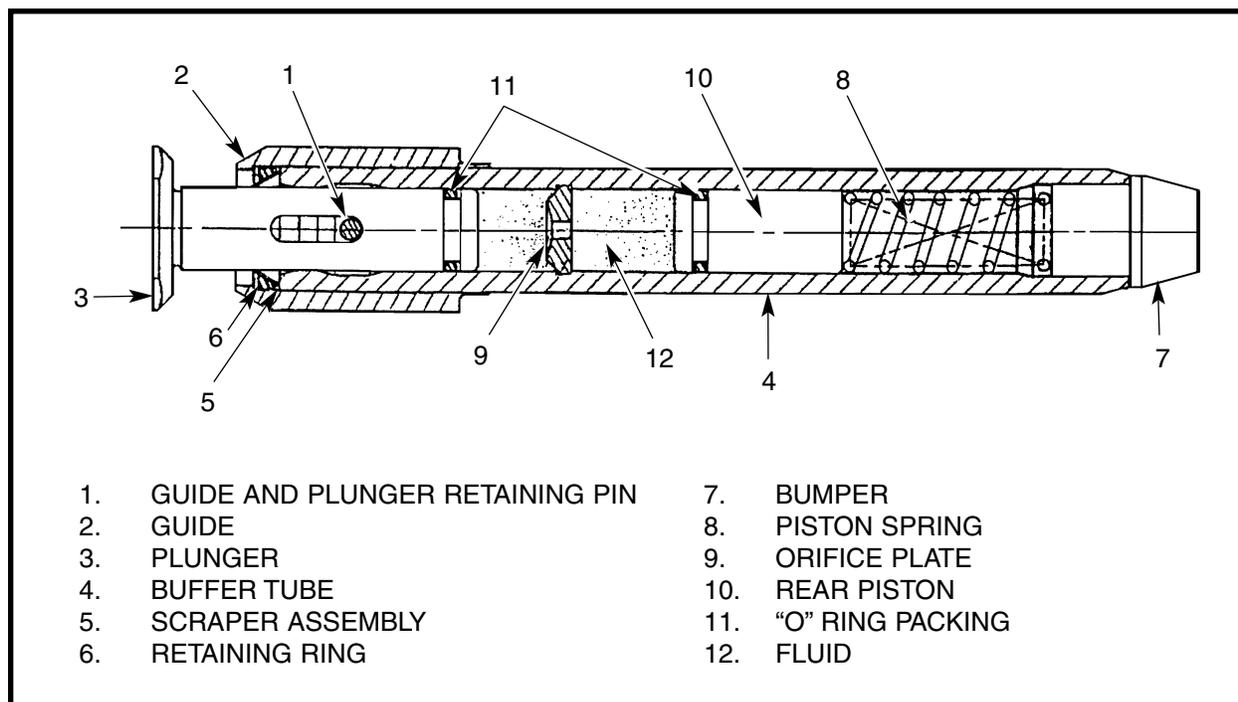

Figure 3-2-61 Hydraulic Buffer Assembly
75. Disassemble the buffer assembly as follows, see figure 3-2-61:
- a. Remove the riveted end of the guide and plunger retaining pin (1), and remove the pin using a suitable pin punch;
- b. Slide the assembled guide (2), and plunger (3) off of the buffer tube (4);
- c. To further disassemble the guide and plunger assembly, remove the "O" ring (11) from the plunger and slide the plunger forward out of the guide. The three piece scraper assembly (5) and the steel retaining ring (6) can now be removed from the rear of the guide;
- d. Drain the hydraulic fluid from the tube and remove the bumper (7) and piston spring (8) to the rear;